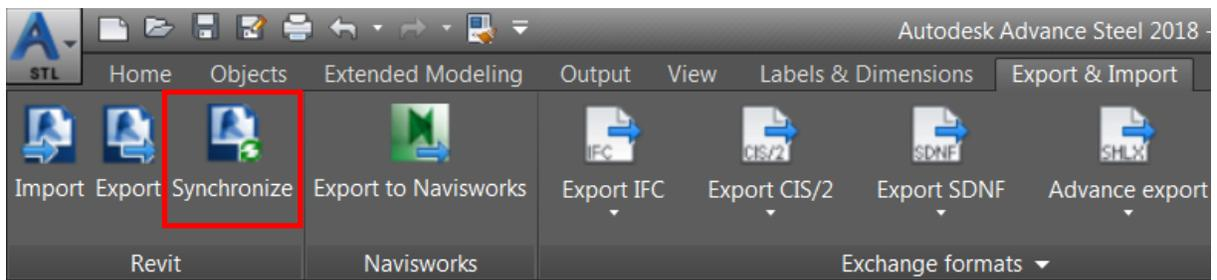

FIGURE 25: SYNCHRONIZING THE AUTODESK REVIT MODEL
1. In Advance Steel, from the **Export & Import** ribbon tab > **Revit** ribbon panel, click **Synchronize**, as shown in Figure 25.
*Tip: You can right-click on the **Status** column in the dialog box and select additional columns. For example, in Figure 25, the **Section** and **Section – File** columns are added using this method.*